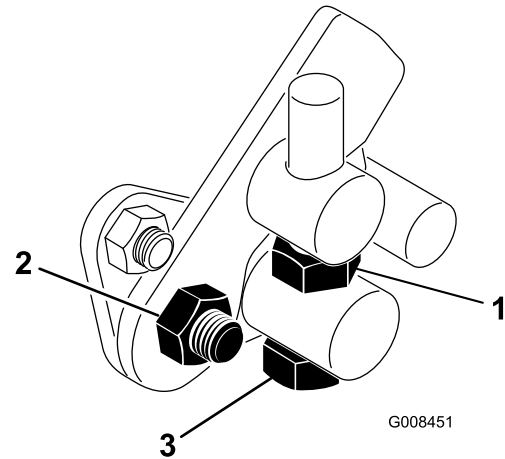

Figure 45
1. Loosen the jam nut on the trunnion bolt (Figure 45).
4. Tighten the jam nut on the trunnion bolt and the nut on the pedal pivot to lock the adjustment (Figure 45). Check the adjustment and adjust as required.